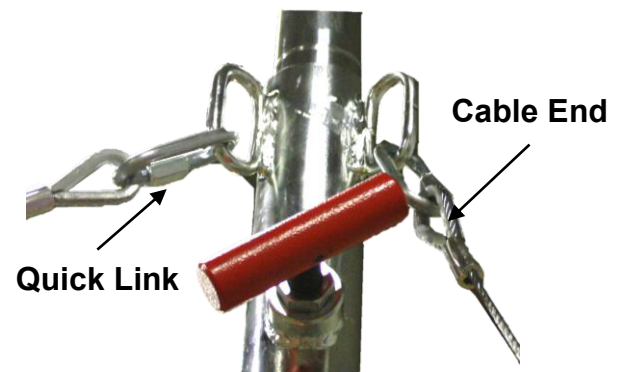

Figure 5
5. Attach all cable ends to the quick links on the uprights as shown in **Fig. 5** below. **The quick links should be oriented so they will be tightened by turning the nut down. That will help prevent it from unthreading during the use of the apparatus.** Close the quick links hand tight at this point, since you may have to open it again during assembly.